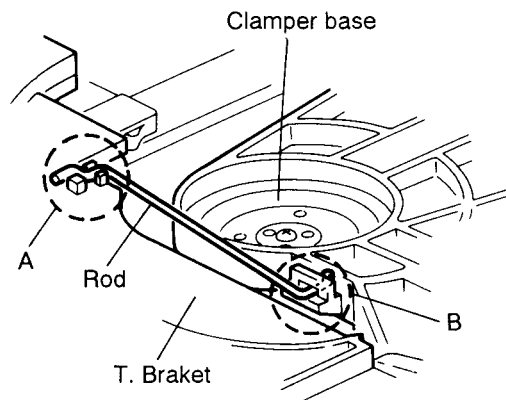
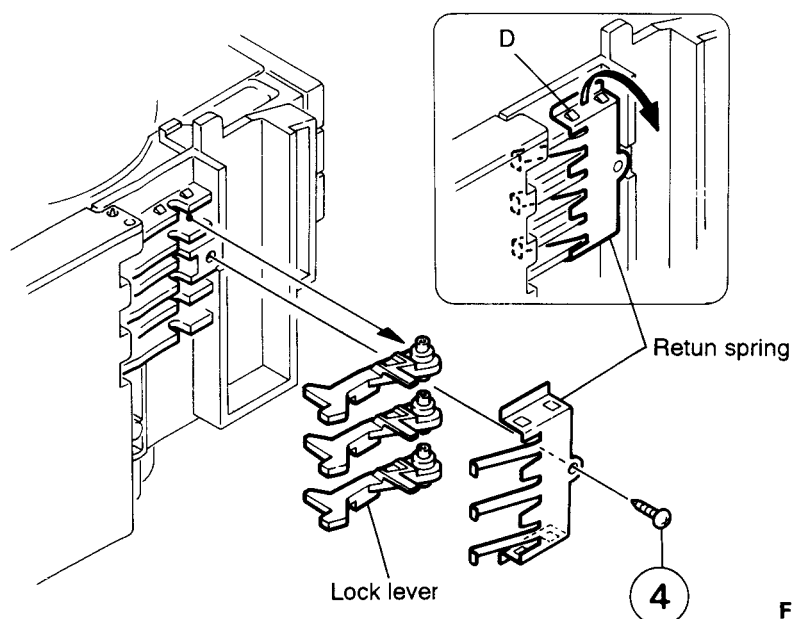

Fig. 5-32
Fig. 5-34
(See Figs. 5-32~5-38)
4. From the T. bracket section (A) and clamber base section (B), remove both of the edges fixing the rod (See Figs. 5-32 and 5-33).
5. Remove the three screws (1) retaining the T. bracket (See Fig. 5-32).
6. From the left side face of the chassis assembly, remove the one screw (4) retaining both of the return spring and lock lever.
7. By removing the pawl at the section (D) fixing the return spring, dismount the return spring (See Fig. 5-34).